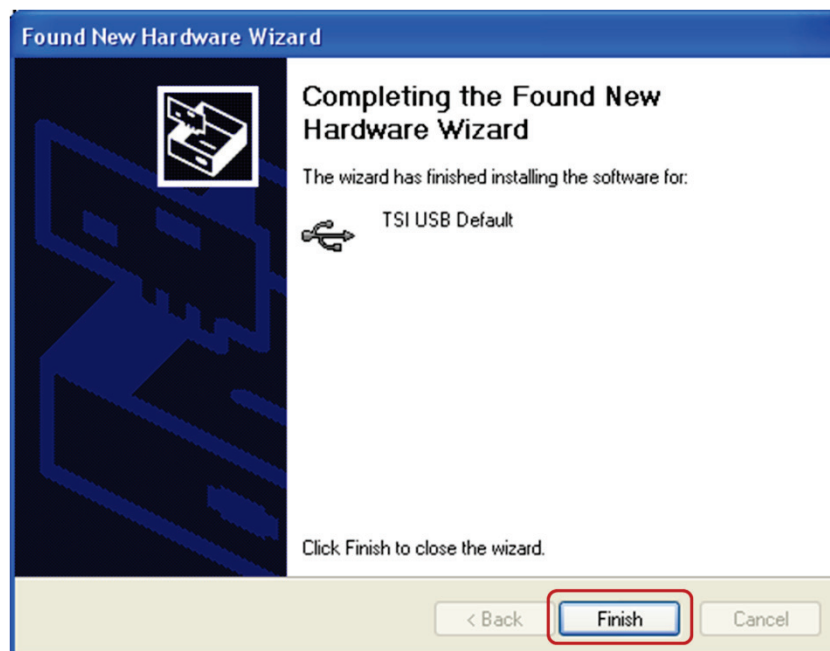

Figure 15
7. Make sure that the device installed without any errors. Select **Finish** to complete the device installation and exit the dialog (Figure 15).